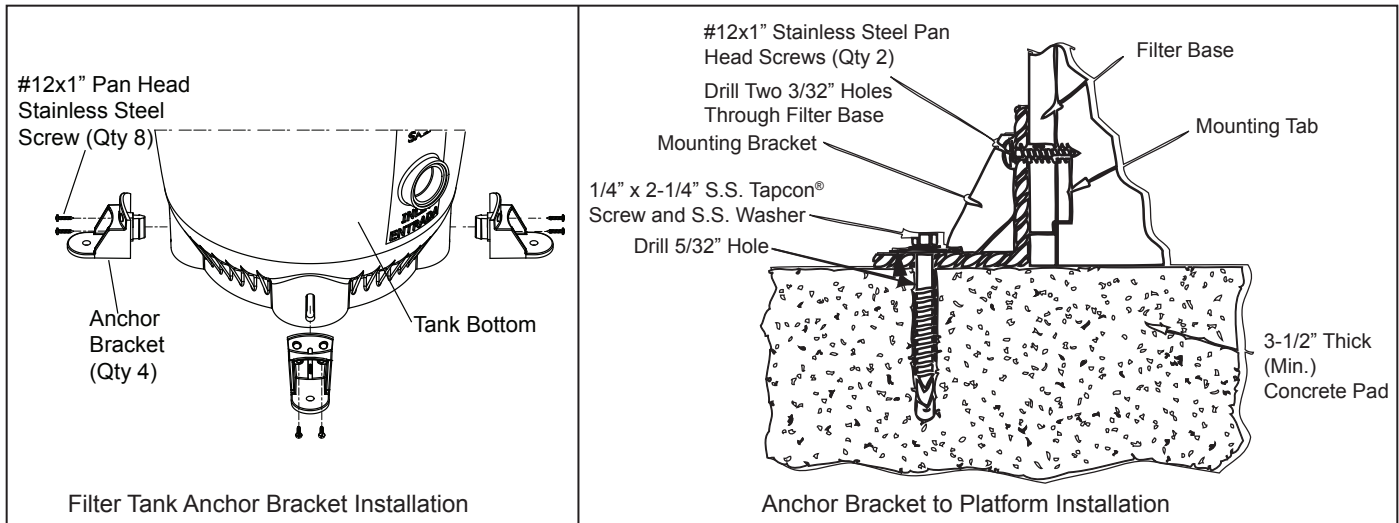

Figure 3. Anchor Bracket Installation
Install the Tapcon screws and washers through each of the four (4) anchor brackets to secure the filter to the equipment pad. See Figure 3. **Do not over-torque the screws.**